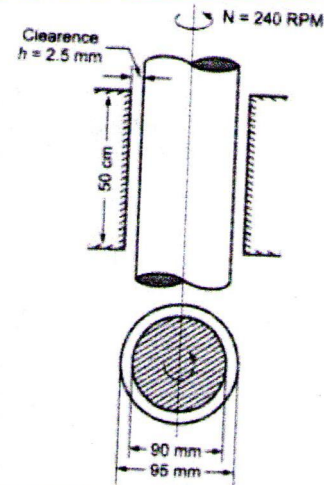

Fig. 1.5
1.9 A cylindrical shaft of 90 mm diameter rotates about a vertical axis inside a fixed cylindrical tube of length 50 cm and 95 mm internal diameter. If the space between the tube and the shaft is filled by a lubricant of dynamic viscosity 2.0 poise, determine the power required to overcome viscous resistance when the shaft is rotated at a speed of 240 rpm (Refer. Fig. 1.5).